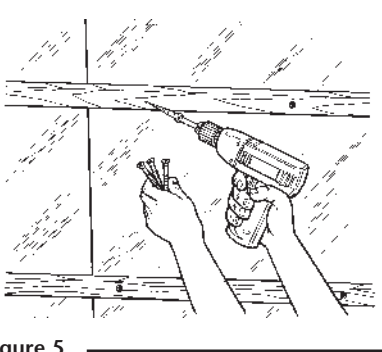

Figure 5
3. Install 3/4" furring strips either 16" or 24" on center, vertically or horizontally, using mechanical fasteners. With electric drill and masonry bit, drill holes through the furring strips 1-1/2" into the block wall. See Figure 5. Concrete fasteners should be longer than the insulation board thickness. (To secure strips to wall, use three or four screws per 8' length.)